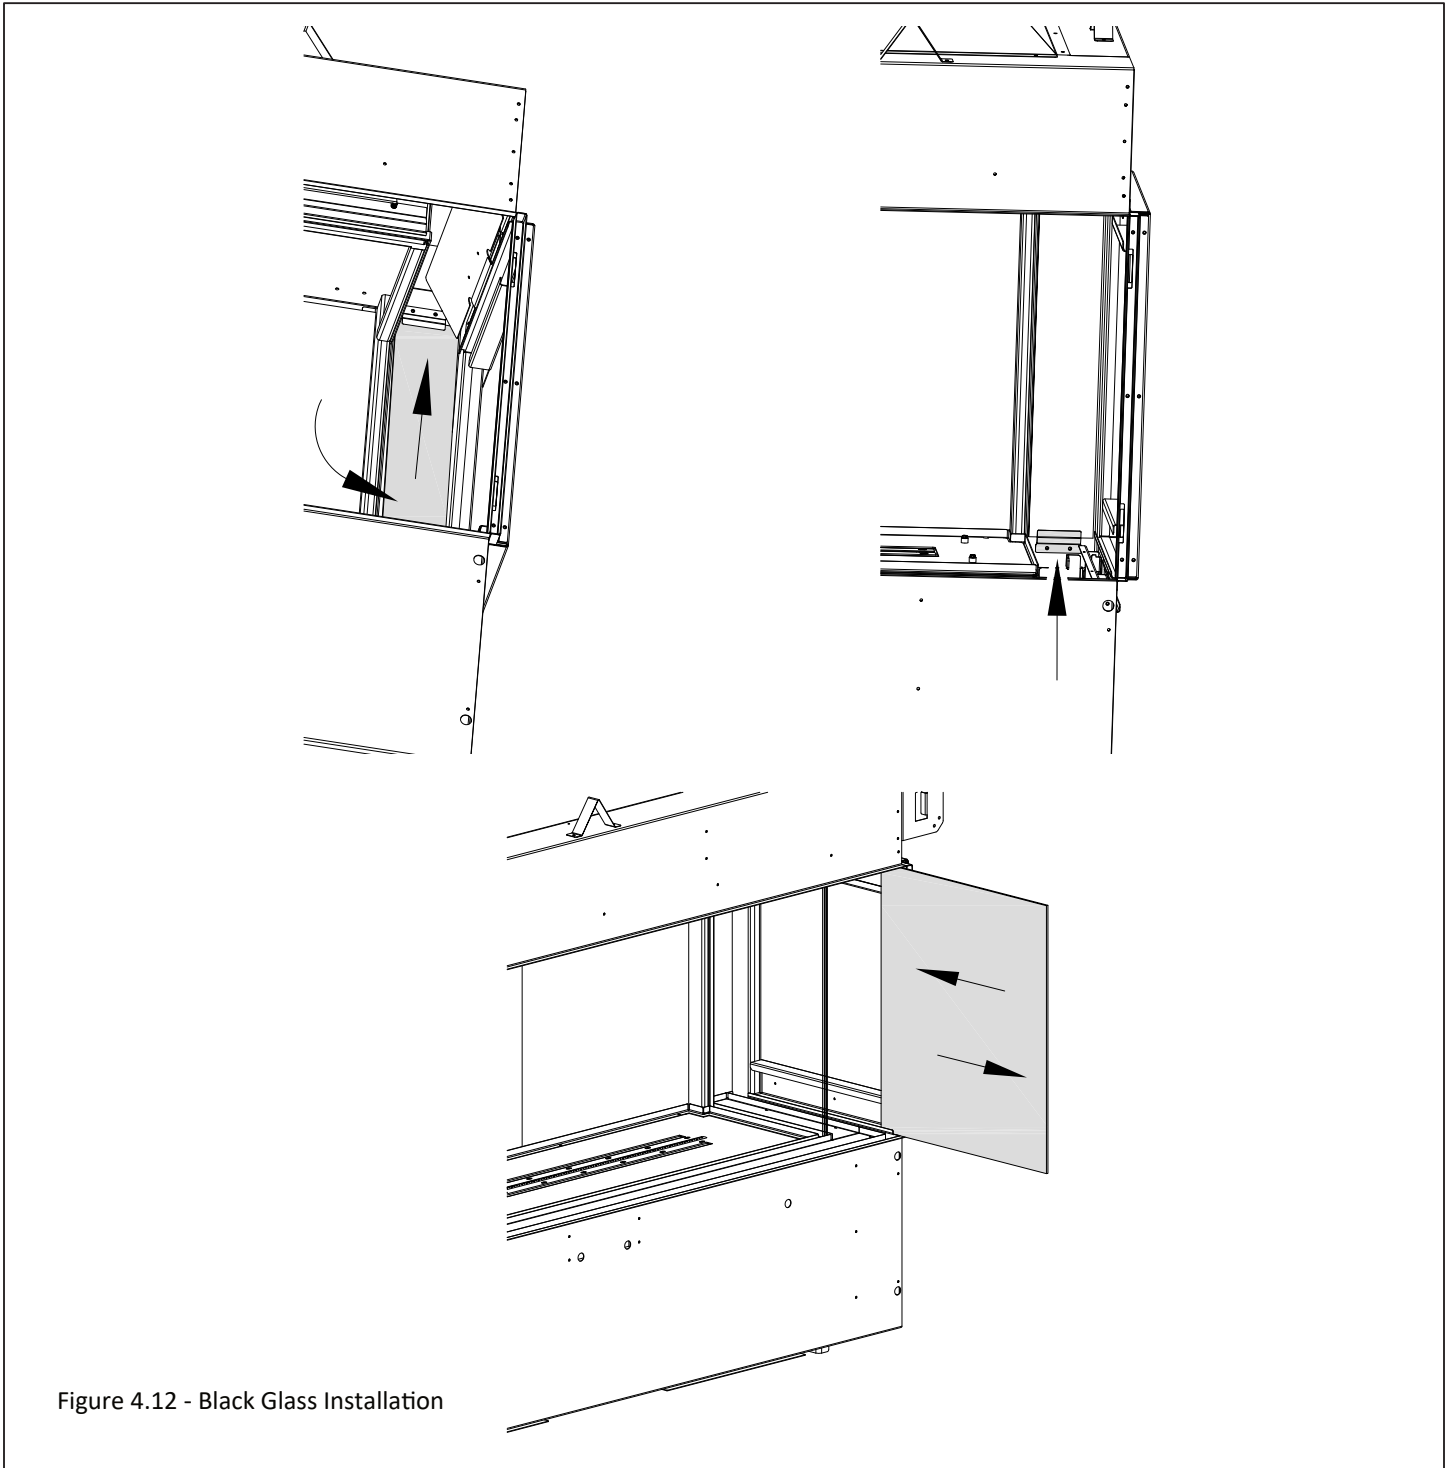

Figure 4.12 - Black Glass Installation
3. Install the (2) rear perimeter black glass panels by tilting them sideways until you get them to the back of the fireplace. Place the top edge of the glass up into the preinstalled top perimeter panel clip and tilt into place. While holding the black glass in place, use the supplied perimeter panel clip and secure the clip on the bottom of the black glass with (2) sheet metal screws. See Figure 4.12.
4. Corner Installation only - Install one side black glass panel by sliding them into position as shown in Figure 4.12.